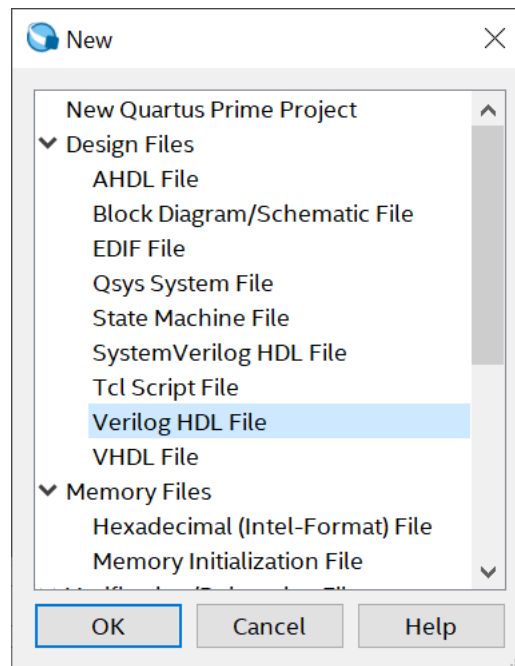

Figure 11. Choose to prepare a Verilog file.
1. Select **File > New** to get the window in Figure 11, choose **Verilog HDL File**, and click **> OK**. This opens the Text Editor window.